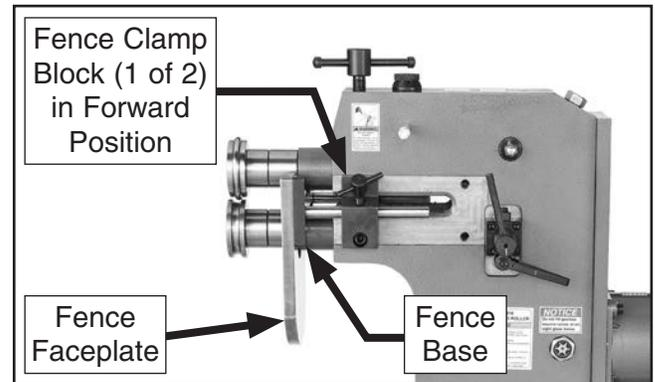

Figure 14. Fence installed in forward position.
The fence can be mounted in two positions (see **Figures 14–15**).
- **Forward Position** (see **Figure 14**): Use for beads closer to the workpiece edge. The fence adjusts from 0"–4" from the mandrels.
This machine comes with the fence mounted in the forward position. To use the rear position, you must partially disassemble and remove the fence, move the mounting blocks, then re-assemble and install the fence in the new position (see **Figures 14–15 on Page 20**).